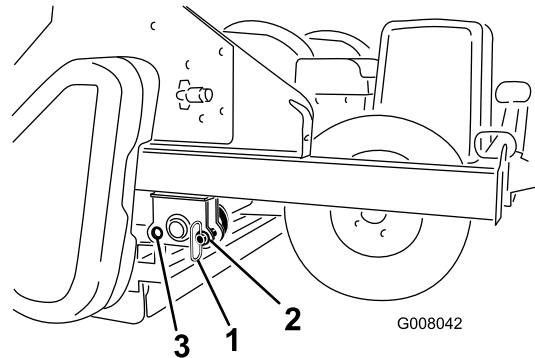

Figure 23
1. Remove the storage pins from the rear hole position (Figure 23).
3. Install the storage pins in the front hole position (Figure 23).